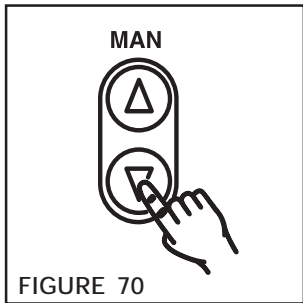

FIGURE 70
3. Press the **MAN** Key until the Tension Indicator displays the known weight (See Figure 70).
The decimal point on the Tension Indicator is placed to the right of the digit currently being adjusted. These are binary switches, as indicated by 0 or 1 (See Figure 70 for explanation of each digit).